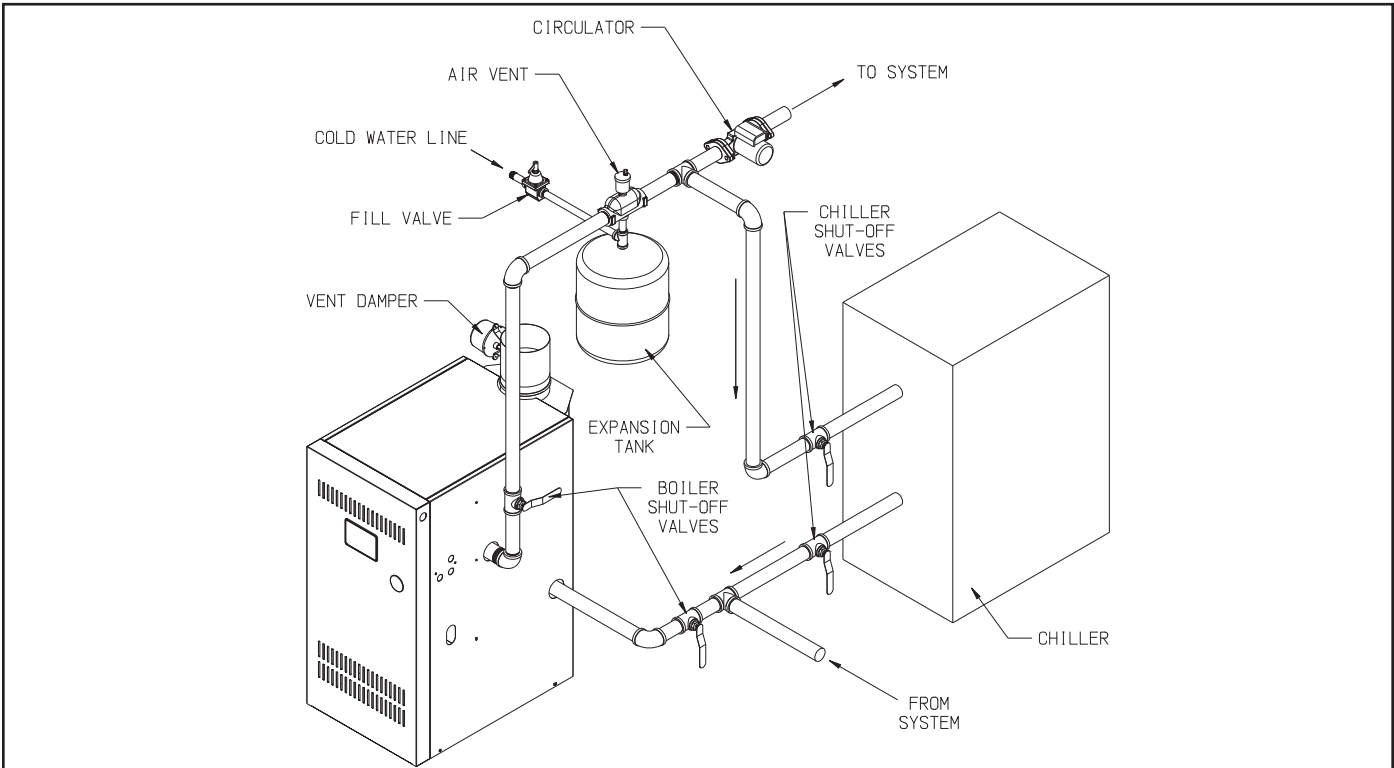

FIGURE 7.7: BOILER PIPING WITH CHILLER
- 6) Piping with a Chiller - If the boiler is used in conjunction with a chiller, pipe the boiler and chiller in parallel as shown in Figure 7.7. Use isolation valves to prevent chilled water from entering the boiler.